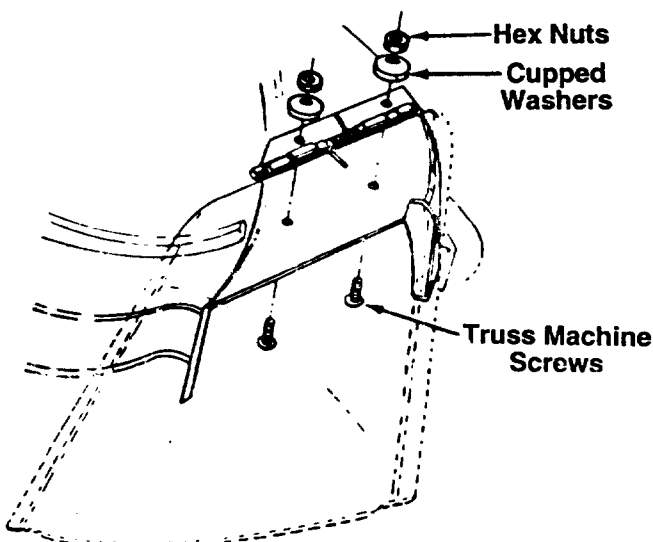

FIGURE 6.
2. Place the chute deflector in position as shown in figure 6. Secure with hardware just removed